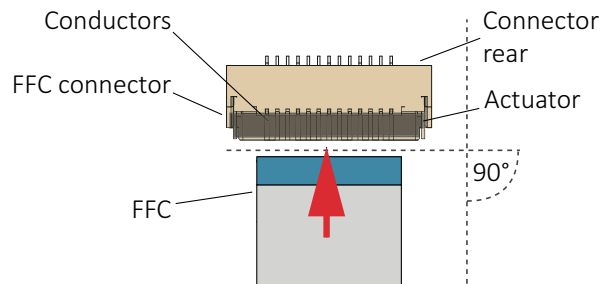

Figure 16: FFC and 22-pin FFC flip connector
2. Take the FFC with conductors facing the PCB and feed it underneath the actuator into the connector at a horizontal angle of 90° to the connector's rear (see Figure 16)...